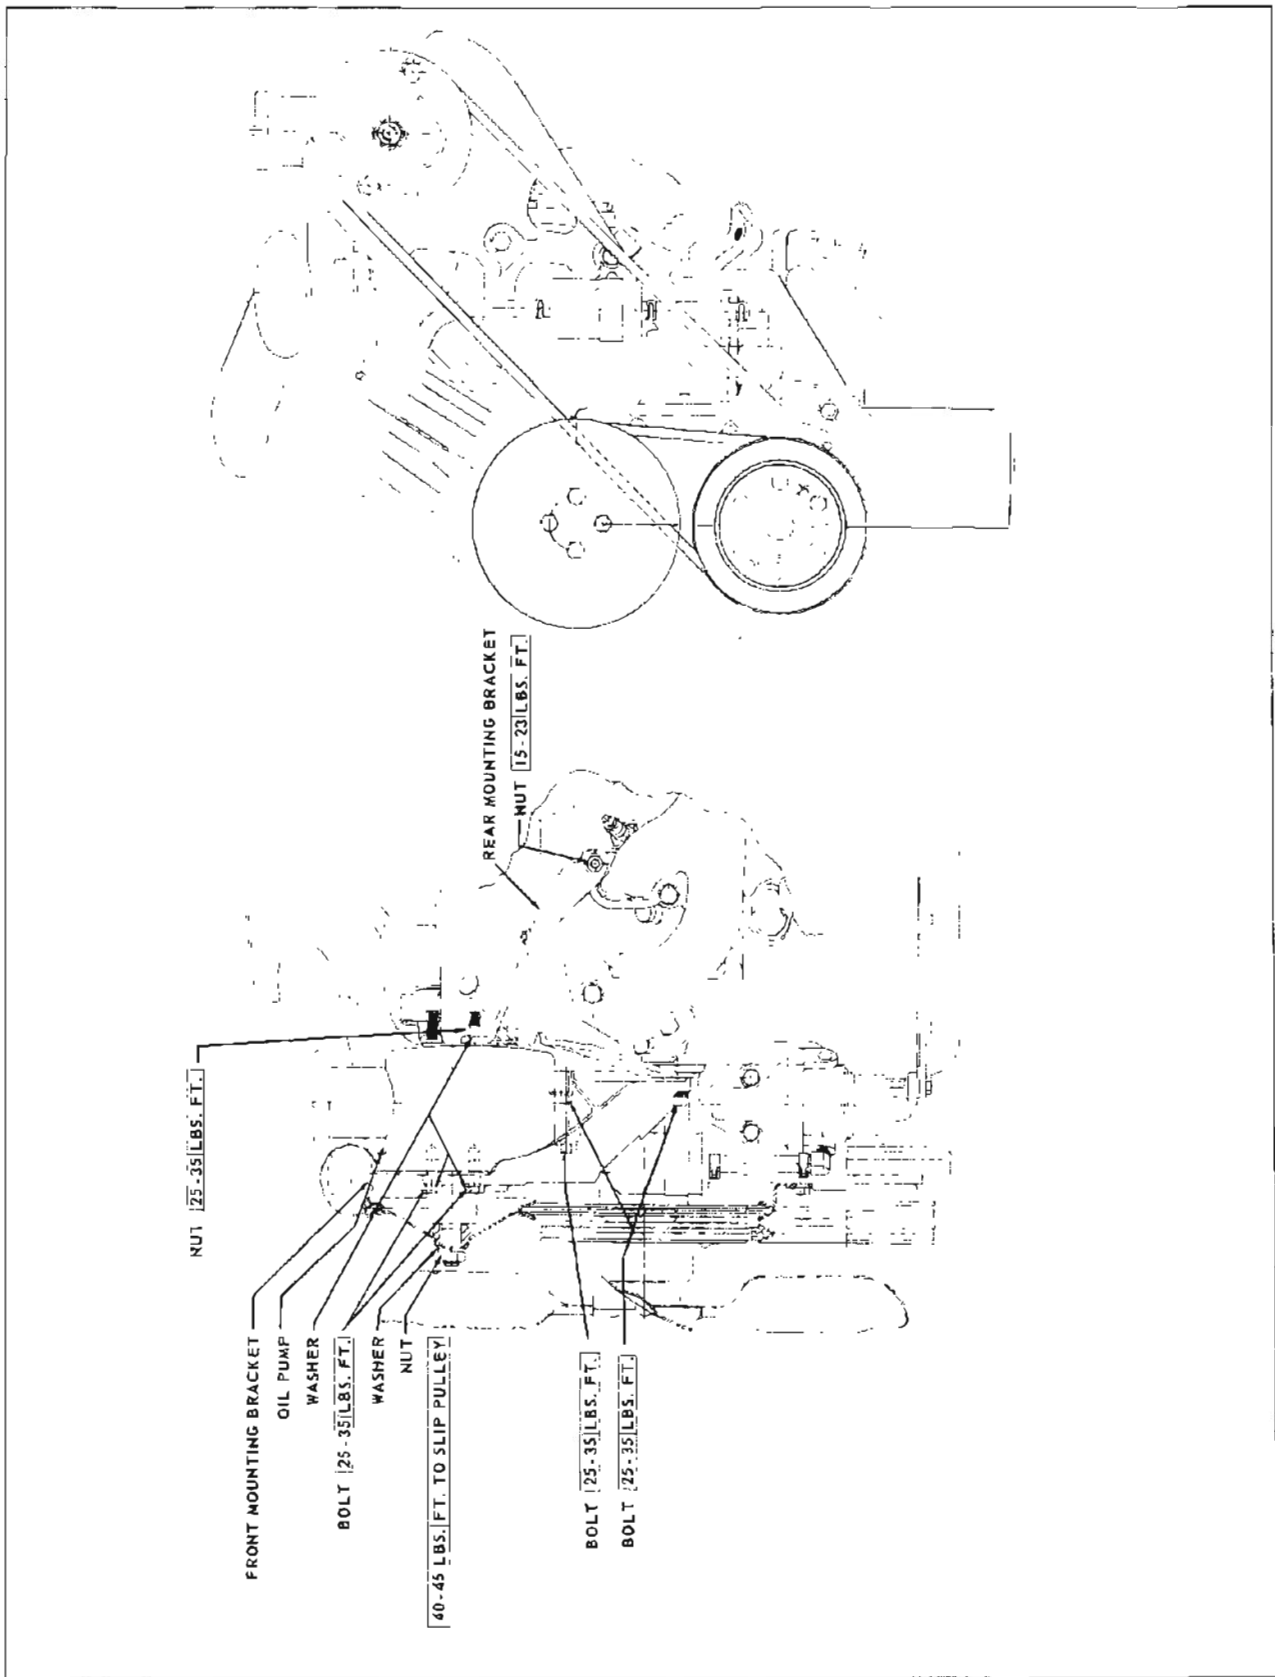

Figure 8-32—Oil Pump Installation
1. Remove pump pulley nut. See Figure 8-32. Disconnect belt from pulley and remove pulley using a suitable puller. Do not hammer pulley off.